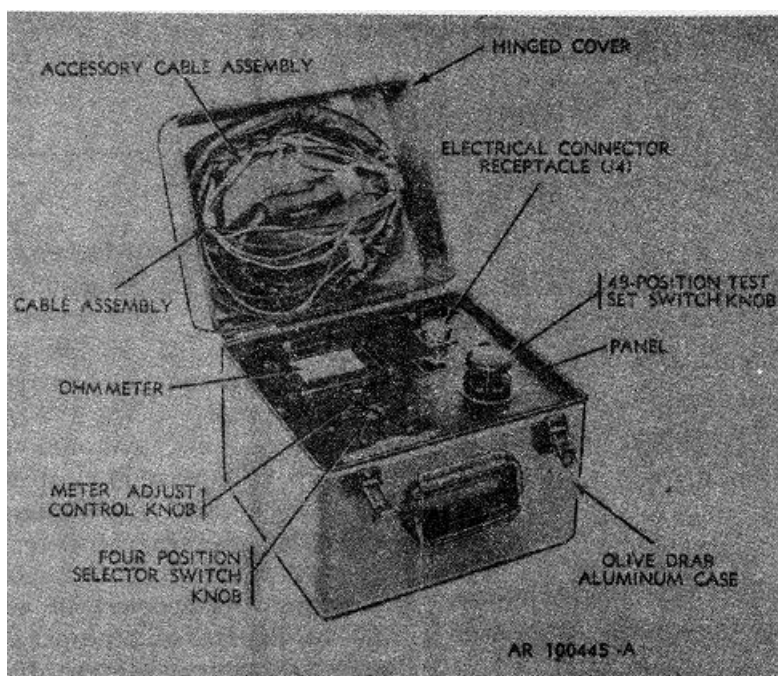

Figure 1-1. Test set, electrical circuit, bomb dispenser; A/E 24T-79.
b. *General.* The test set (fig. 1-1) consists of a battery operated Simpson Ohmmeter, Model 362, or its equivalent, in conjunction with a test set switch (referred to in the text of this manual as a 48-position test set switch) (see 16, fig. B-2), an electrical connector (5, fig. B-1), and a fourposition selector switch, all mounted on the test set panel (1, fig. B-1). The test set panel is mounted in a moisture-proof, aluminum case (fig. B-3), which also contains two test cables (fig. B-4 and B-5).
(2) The four-position selector switch (figs. 1-1 and B-1) allows for the choice of two resistance ranges, a meter adjustment setting, and an OFF setting. The high resistance range measures resistances up to 25 ohms; the low resistance range measures resistances up to 5 ohms. The meter ADJUST position (fig. B-1) is used for adjustment of the ohmmeter pointer. The input power for operation of the test set is from one self-contained, 1.5 volt type "C" dry cell battery.
(3) There are two test cable assemblies:
- (1) Turn the four position selector switch to ADJUST (fig. 1-1)
(2) Align meter pointer with the ADJUST line on the meter by turning the meter adjustment control knob (fig. 1-1).